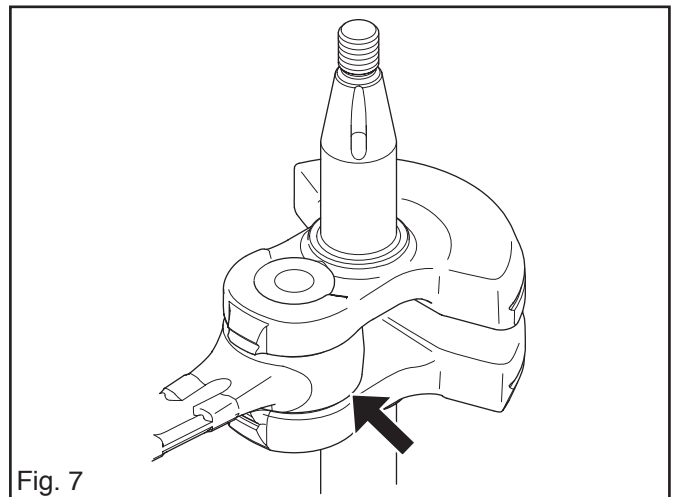

Fig. 7
2. That the big-end bearing does not have any score marks or is discoloured on the sides. See fig. 7.